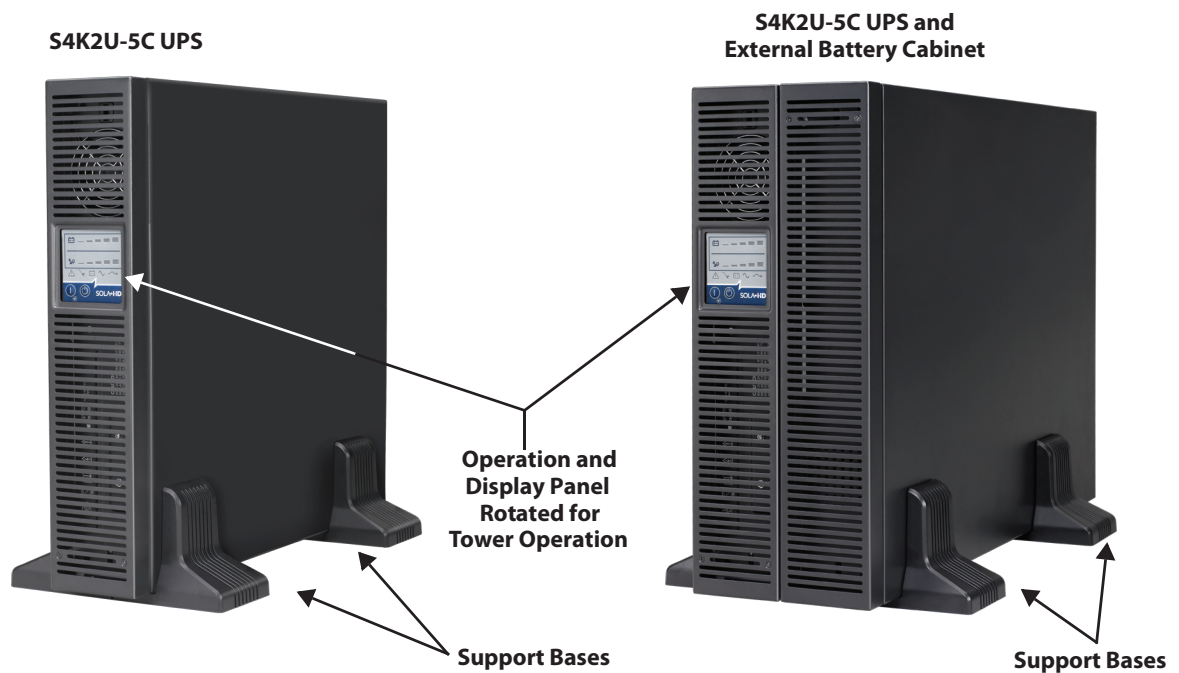

Figure 7: Tower installation
5. Place the S4K2U-5C and any battery cabinets on the support bases. Each S4K2U-5C needs two support assemblies as shown in Figure 7.